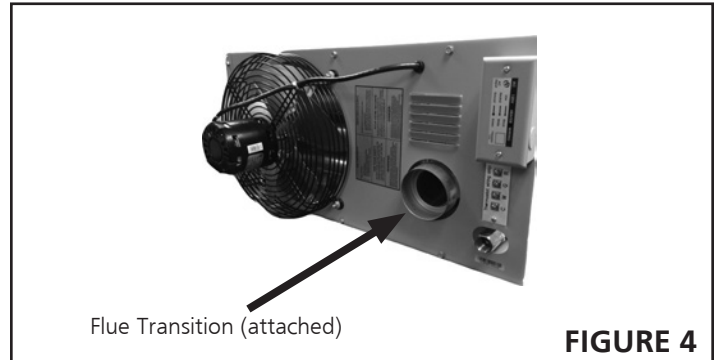

FIGURE 4
2. The vent pipe diameter for horizontal commercial installations shall be 4" (76mm). a transition piece has been supplied and is already attached to your heater. Refer to figure 4
2. The vent pipe diameter for horizontal residential installations shall be 4" on all units. A transition piece has been supplied and is already attached to your heater. Refer to figure 4